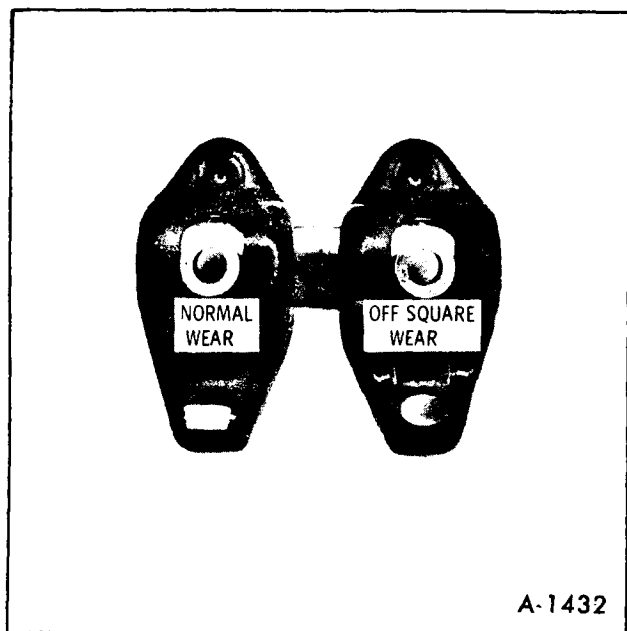

Figure 20-Rocker Arm Wear
b. Observe rocker arm pad for excessive wear or excessive off square. Replace as required. See Figure 20.